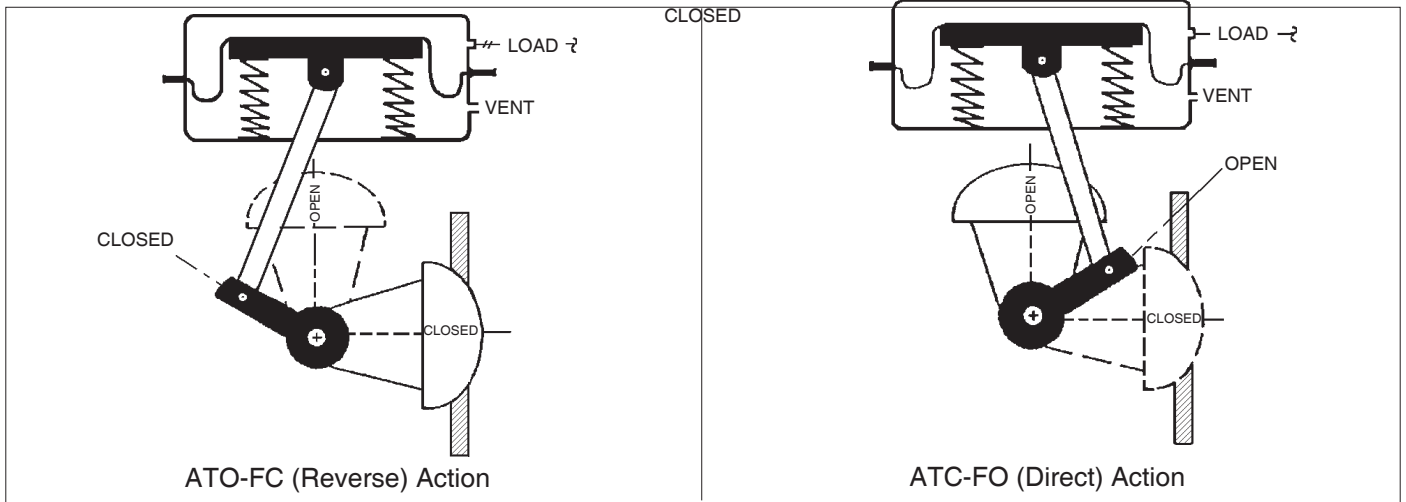

Figure 13:
8. Reposition actuator assembly (AA) as required to align the three remaining bolt holes securing yoke (12) with arm housing (4). Insert the three cap screws (24) and finger-tighten.
9. Use cardboard, or some tool that can provide approximately 1/32" (0.80 mm) thickness, and wedge three such spacers between the circumferential edge of dust cover plate (23) and the round opening in the arm housing (4).
10. Wrench-tighten in one-half revolution increments and alternating cross-pattern the four cap screws (24) securing actuator assembly (AA) to body assembly (BA). Final tightening should be by torque wrench to 30-35 ft-lbs (40-47 N-m).
- a. Secure characterization cam (12) properly oriented over the two rolled spring pins (50) stuck into the inner lever arm (5).
- b. Place the outer lever arm (5) over the two spring pins (50) with the bolt holes aligning. Press the apparatus (5,50,50,5) together.
- a. Similar to 11A. above, except a spacer washer (12) replaces the cam (12) of a Model 73N-B P/P positioner.
12. Position valve plug (Ranger (6))/disc (Premier (3.1) in the proper "Full Closed" or "Full Open" position. **NOT FOLLOWING THIS ARTICLE WILL CAUSE MECHANICAL DAMAGE TO THE UNIT'S (AA, BA) MECHANISM!** See Figure 13.
13. Place properly oriented lever arm apparatus (5,50,12,50,5) over shaft's (Ranger (7), Premier (3.2)) square end and push into place while holding lower L.H. rod end (9) "swung" aside so as to not interfere. **NOTE: For units (AA, BA) with 73N-B P/P positioner, it will be necessary to "swing" the feedback linkage subassembly ((72)) out of the way as the lever arm apparatus (5,50,12,50,5) is pushed into place.** Center-align lever arm apparatus (5,50,12,50,5) transversely within the arm housing (4), directly over stop screw (35).
- 14A. For units (AA, BA) with Model 73N-B P/P positioner: Place indicator spacer (17) over end of shaft (Ranger (7), Premier (3.2)) properly oriented for travel indicator (16) to be "located" by spring pin (51). See Fig. 13.
- 14B. For units (AA, BA) with Model 9540R P/P positioner or 991 oR PS2 I/P positioner: Reference the IOM-9540R or 991 or PS2 for proper instructions on reinstallation of indicator spacer (17) and drive coupling ((32)).
15. Align the bolt holes in lever arms (5) and lower L.H. rod end (9). **NOTE: For units (AA, BA) with ATO-FC action it will be necessary to offset "stem windup" by –**
- a. Rotating manual handwheel operator (MHWO) handwheel (58.1) approximately 1-3 revolutions CW (viewed from above handwheel) until the bolt holes of lever arms (5) and lower L.H. rod end (9) are aligned.
- b. Pressurize actuator casing (1) only until the bolt holes of the lever arms (5) and the lower L.H. rod end (9) align.
16. Insert shoulder bolt (40) through the round opening of the arm housing (4) and into the bolt holes of lever arms (5) and lower L.H. rod end (9).
17. Ensure that lever arm apparatus (5,50,12,50,5) is transversely centered within the arm housing (4). Engage lock nut (46) together with shoulder bolt. Wrench-tighten to a torque of 15-20 ft-lbs (20-27 N-m).
18. Place ball bearing (18) into cover plate (13). Place cover plate (13) into arm housing (4) in correct orientation. There should be a problem with the cover plate (13) not aligning properly. Slowly remove the "stem windup" introduced in Article 15 above by reversing the loading forces from the manual handwheel operator (MHWO) or the air pressure to actuator upper casing (1). Removal of the forces will allow the cover plate (13) bolt holes to align with those of the arm housing (4), and allow the cover plate (13) to properly shoulder into the arm housing (4).
19. Secure cover plate (13) to arm housing by engaging the four cap screws (34) into the arm housing (4); finger-tighten. In a crossing pattern wrench-tighten the four cap screws (34) in 1/4 revolution increments using a 7/32" allen key wrench until firmly tight. **NOTE: Ensure that cover plate (13) is shouldered properly into position on back side.**